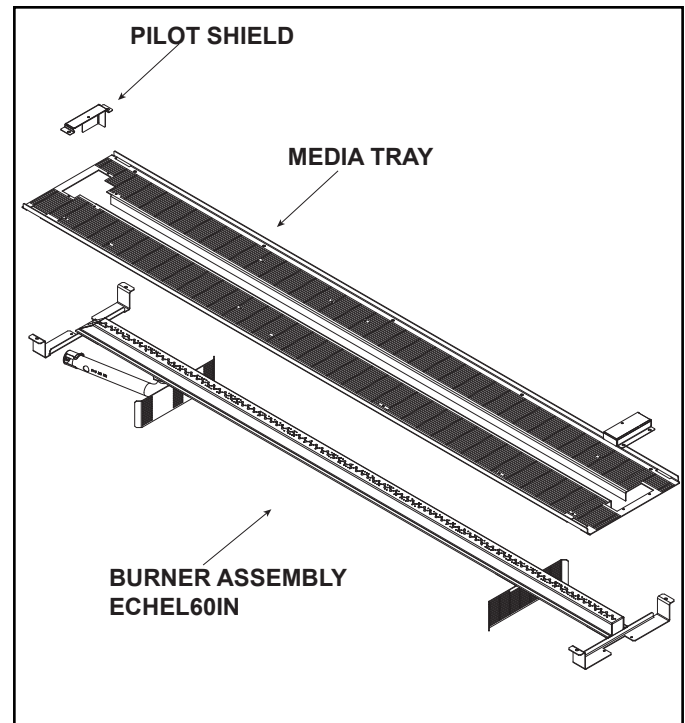

Figure 9.4. Media Tray with Burner and Pilot Shield (ECHEL60IN)
10. Remove the eight screws that secure the glass window. Remove the glass window. Handle with care. See Figure 9.4.